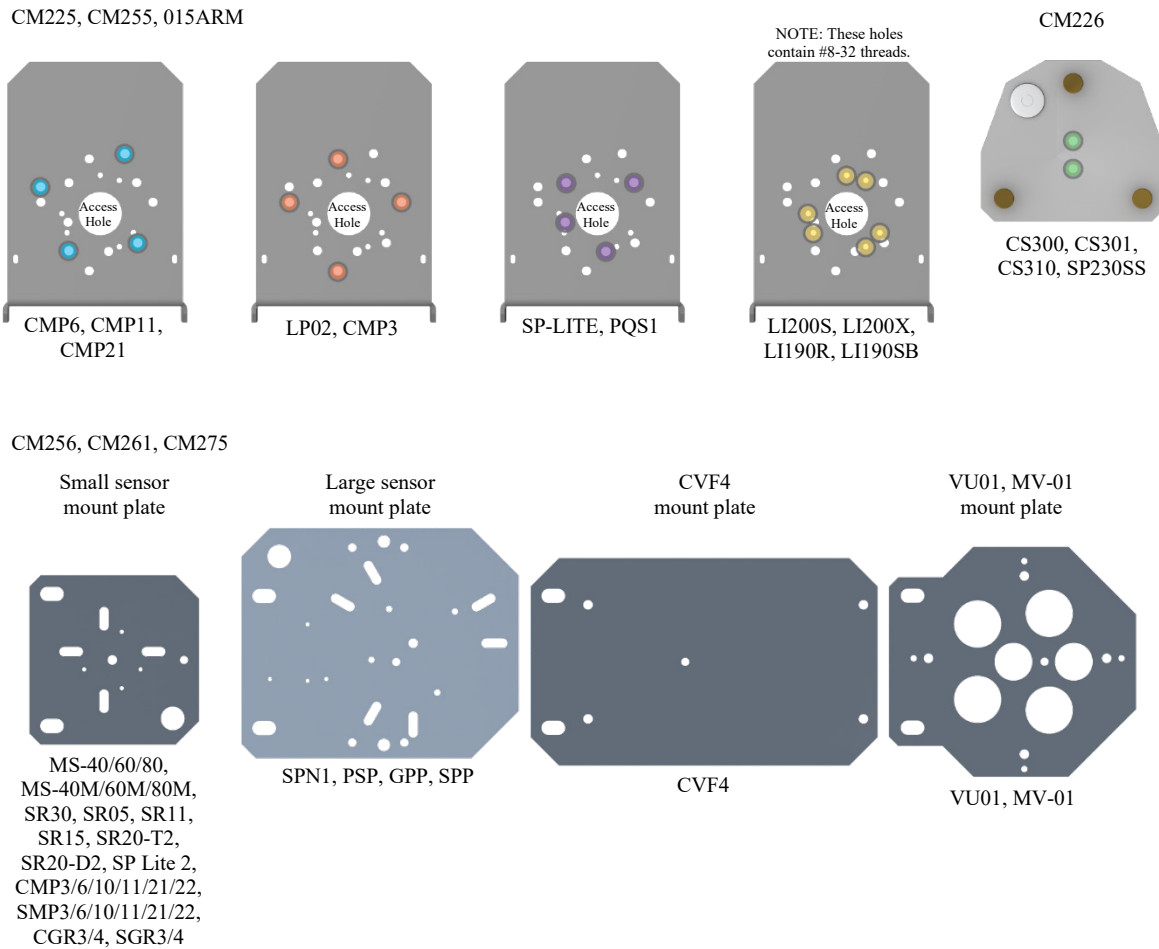

FIGURE 6-2. Mounting plates with compatible sensors
2. Secure the solar radiation sensor to the mounting bracket. Refer to FIGURE 6-2 to determine which mounting holes are used by the sensor. Visually inspect the levelling feet on the sensor (if present) to ensure all feet are in contact with the mounting bracket.